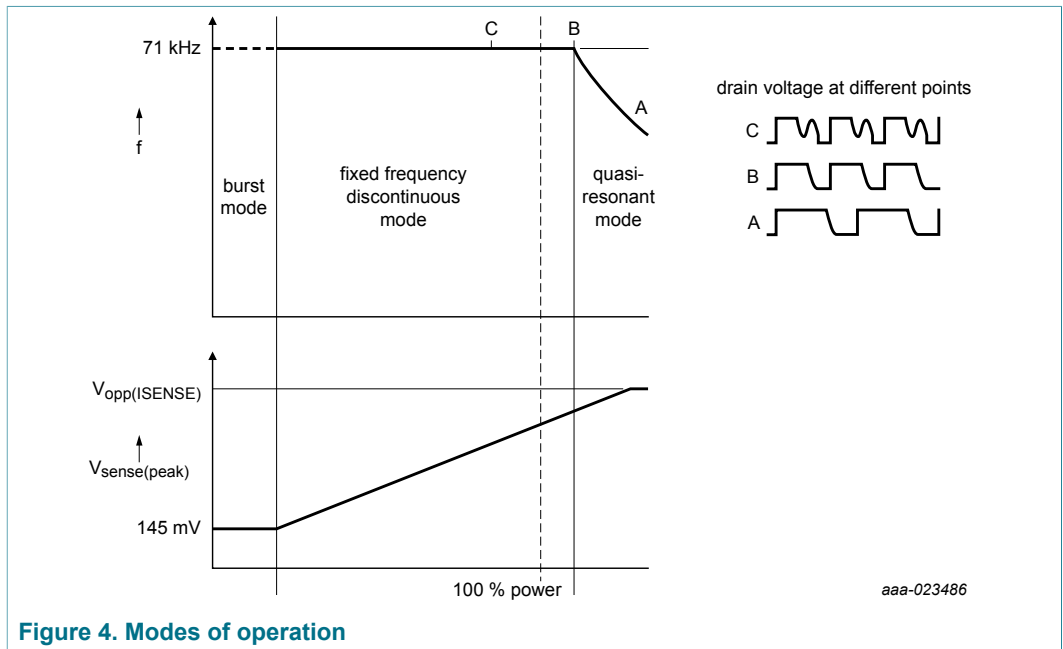

Figure 4. Modes of operation
The TEA19362T operates primarily in fixed frequency DCM mode. At low powers, it enters burst mode. At high powers, it can operate in Quasi-Resonance (QR) mode (see Figure 4). The auxiliary winding of the flyback transformer provides demagnetization information.